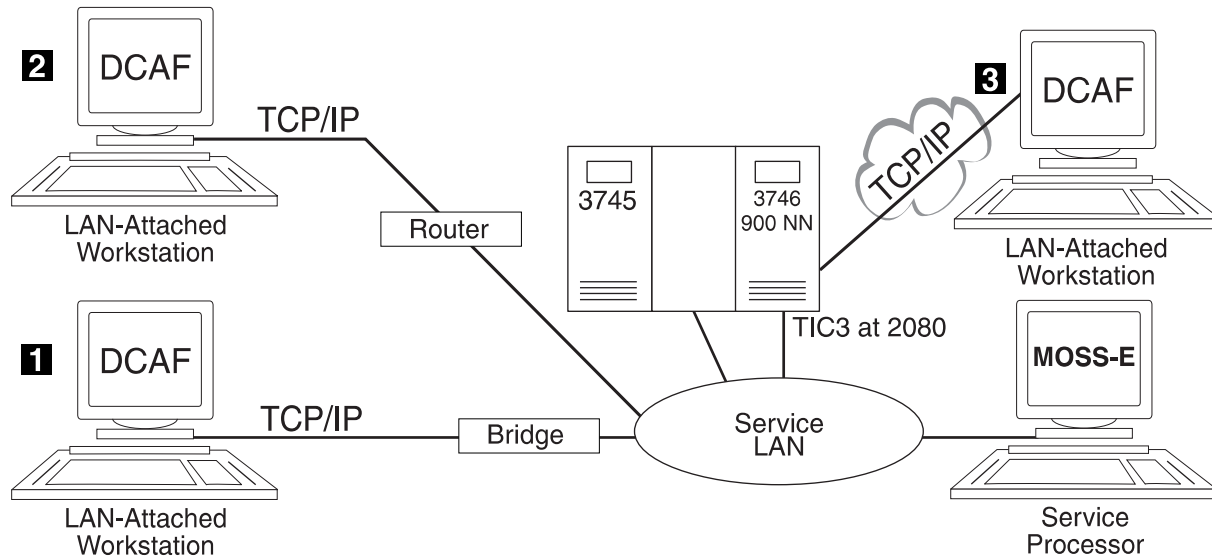

Figure 12-1. Types of TCP/IP Service LAN-Attached Remote Workstations
- A **bridge** with filtering to the service LAN (see **1** in Figure 12-1).
- A **non-3746** router (see **2** in Figure 12-1)
- The **3746** router (see **3** in Figure 12-1)
Step 5. Record the **Service Processor IP address** (this will be used in step 7 on page 12-4). If you have a link through the 3746 (see **3** in Figure 12-1 on page 12-1), enter the **TIC3 2080** address in the **SP default router** field and click **Next** and **Close**.